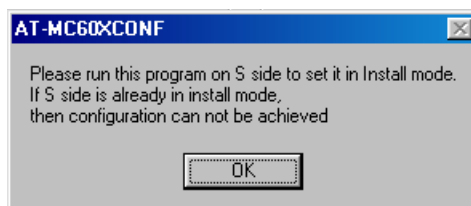

Figure 29 Run on S Side Error Message
- ☐ **"Please run this program on S side to set it in Install mode. If S side is already in install mode then configuration can not be achieved," as shown in Figure 29.**